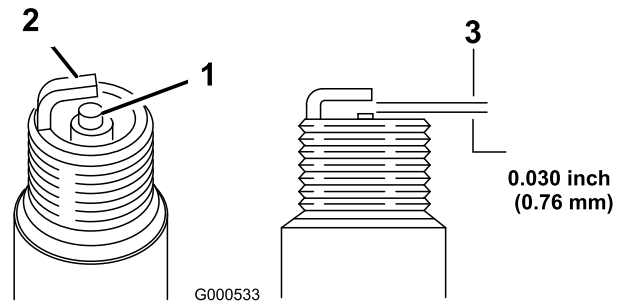

Figure 42
5. Set the gap on the plug to 0.030 in. (0.76 mm) (Figure 42).